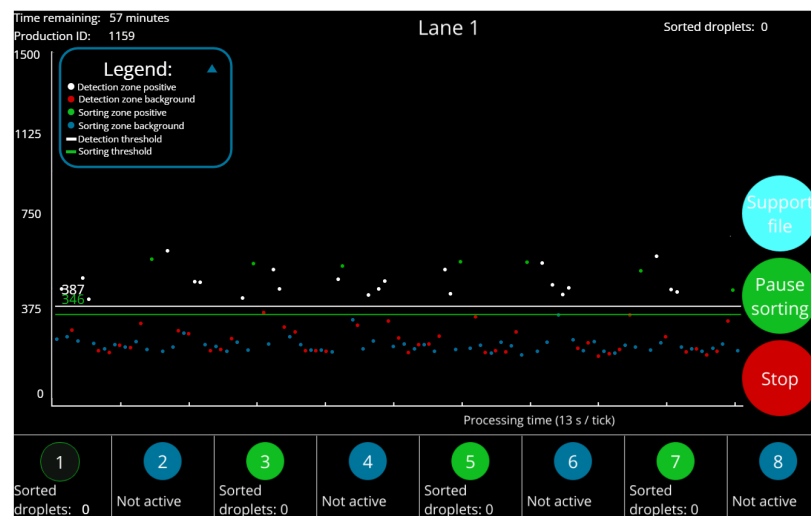

Fig. 3.14. This droplet view screen displays during droplet analysis when sorting is applied.
1. Once the thresholds have been set on all the lanes press Start sorting (Fig. 3.14).